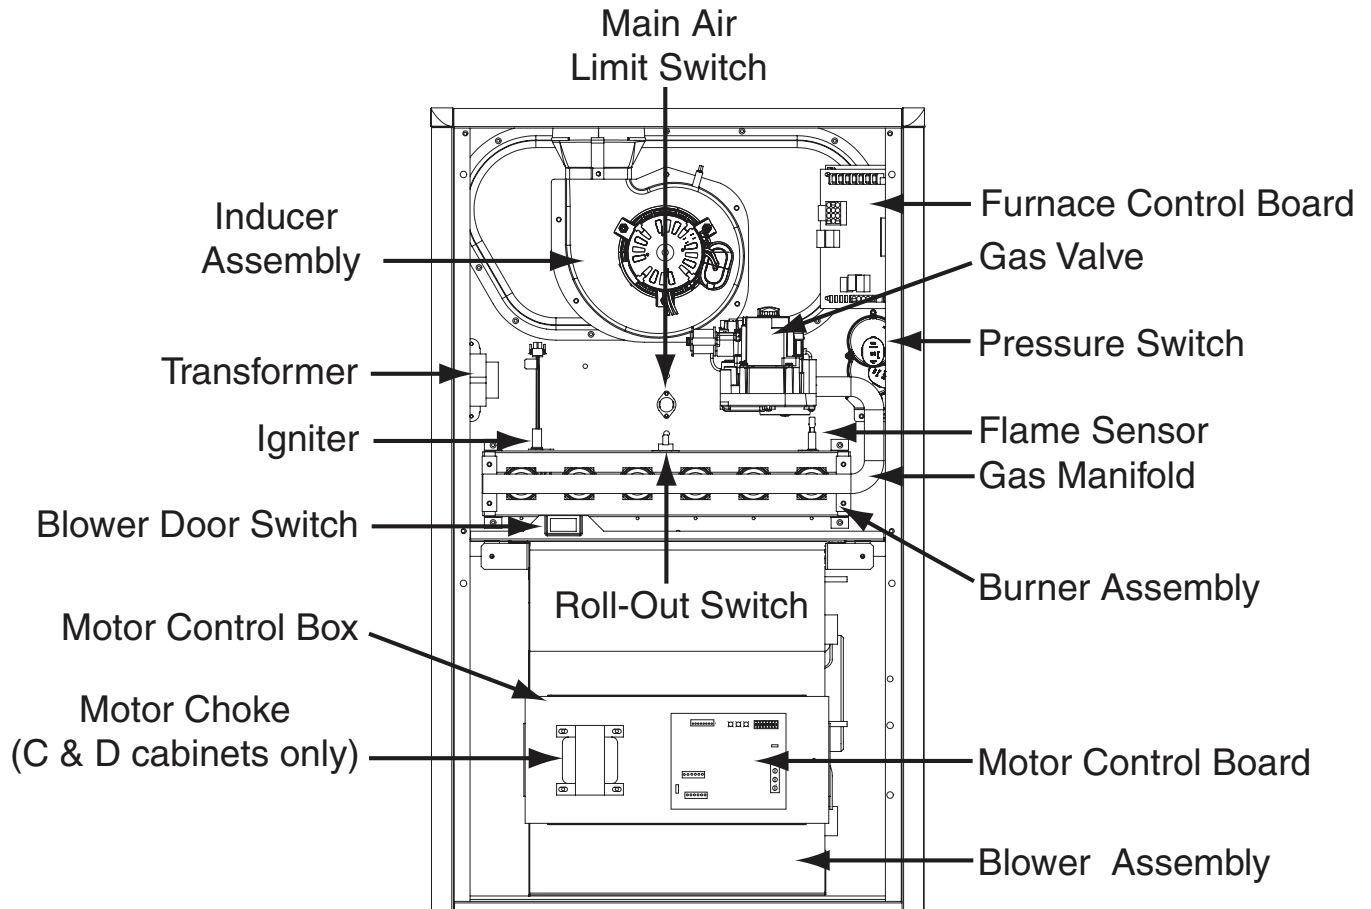

Figure 27. Component Locations
- If the Inducer Blower is operating, and items above have been verified, check the Blower Limit Switch (Figure 27 \(page 35\)) and reset if necessary.
- If the furnace still doesn't operate, check the Flame Roll-out Switches (Figure 27) and reset if necessary.
The descriptions below are various functional components that affect the operation and shutting down of this furnace. Some of these components and their locations are shown in Figure 27 \(page 35\). If any component of the furnace must be replaced, use only factory authorized replacement parts specified in the Replacement Parts List provided online.